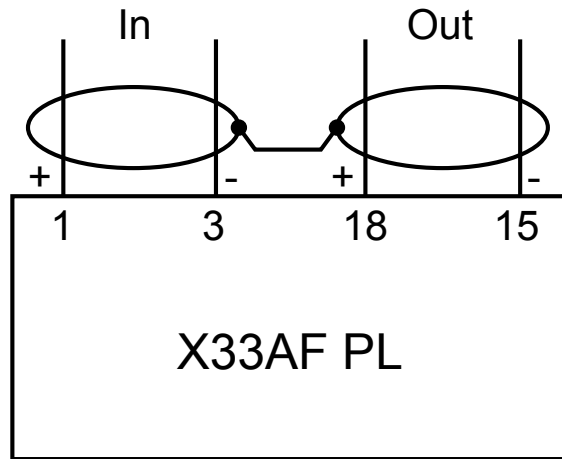

Figure 4 - If shielded cable is used for the PowerLoop, the shielding should be continued.
3. Check input power to the unit (18 – 30V DC on terminals 1, 3 and 15, 18. ref. fig. 4).